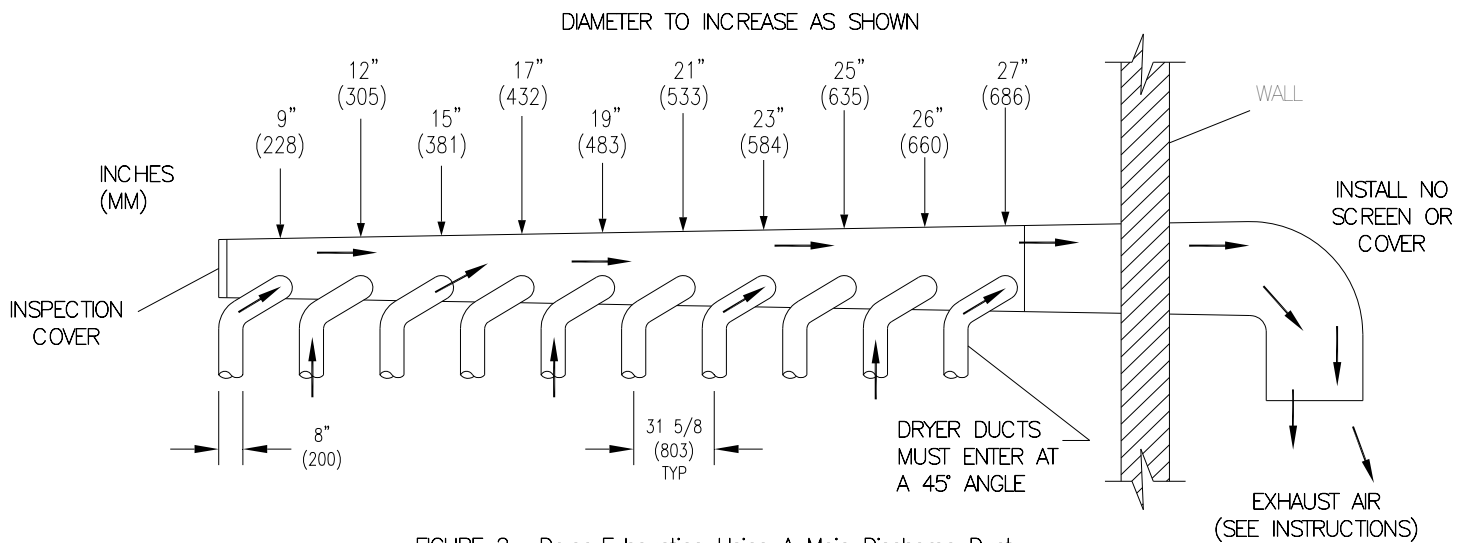

FIGURE 2— Dryer Exhausting Using A Main Discharge Duct.
6. EXHAUST INSTALLATION. (Refer to Figure 2 at the end of section 6.) Exhausting of the dryer(s) should be planned and constructed so that no air restrictions occur. Any restriction due to pipe size or type of installation can cause slow drying time, excessive heat, and lint in the room.
Installation of several dryers, where a main discharge duct is necessary, will need the following considerations for installation (see Figure 2). Individual ducts from the dryers into the main discharge duct should be at a 45-degree angle in the direction of discharge airflow.
**NOTE:** Never install the individual ducts at a right angle into the main discharge duct. The individual ducts from the dryers can enter at the sides or bottom of the main discharge duct. Figure 2 indicates the various round main duct diameters to use with the individual dryer ducts. The main duct can be rectangular or round, provided adequate airflow is maintained. For each individual dryer, the total exhausting (main discharge duct plus duct outlet from the dryer) should not exceed the equivalent of 20' (6 m) and two elbows. The diameter of the main discharge duct, at the last dryer, must be maintained to exhaust end.